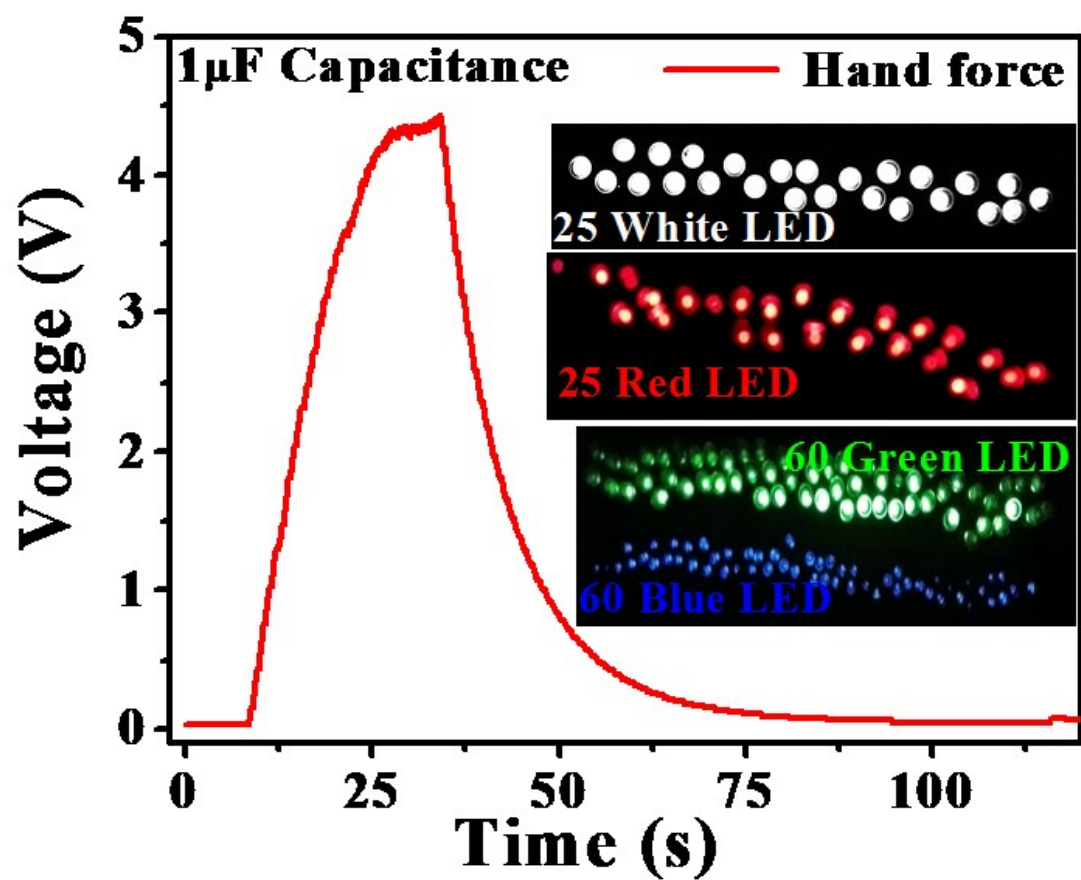

**Figure S2.** Energy harvesting mechanism of the C-TENG.
- Figure S2** Energy harvesting mechanism of the C-TENG.